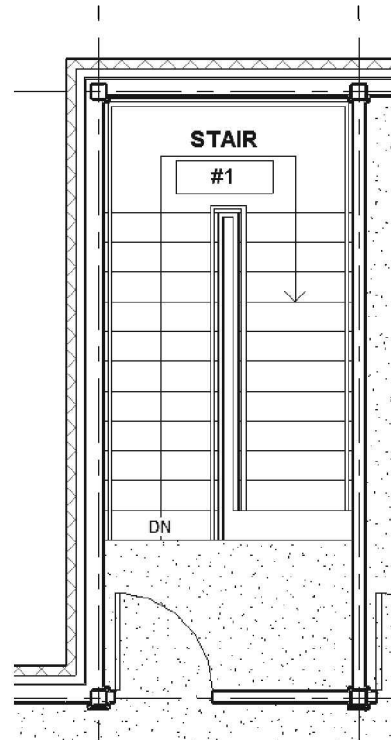

FIGURE 12-1.11
23. Click within the stair shaft; see Figure 12-1.11.